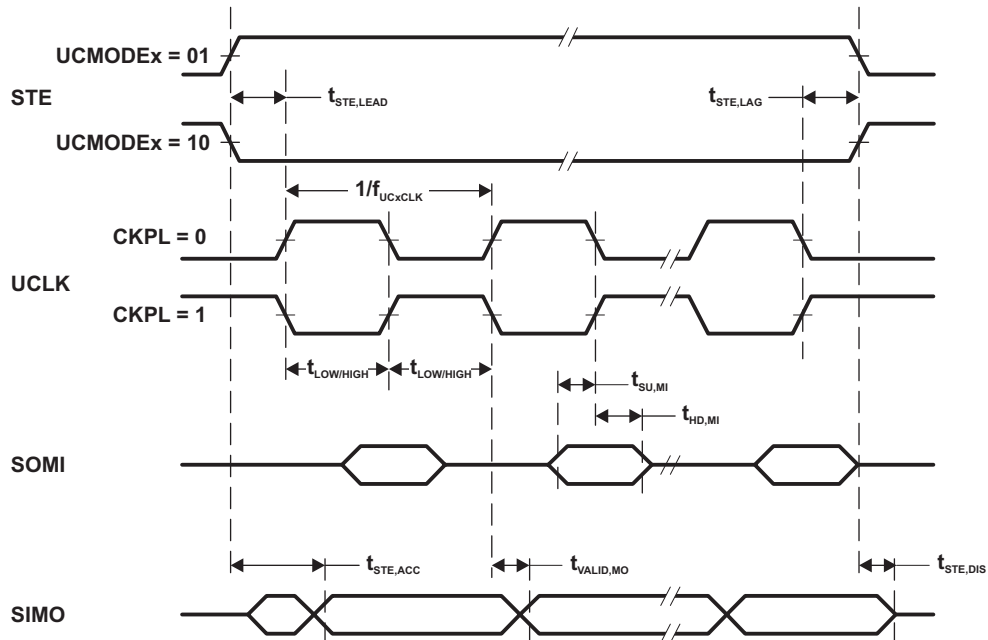
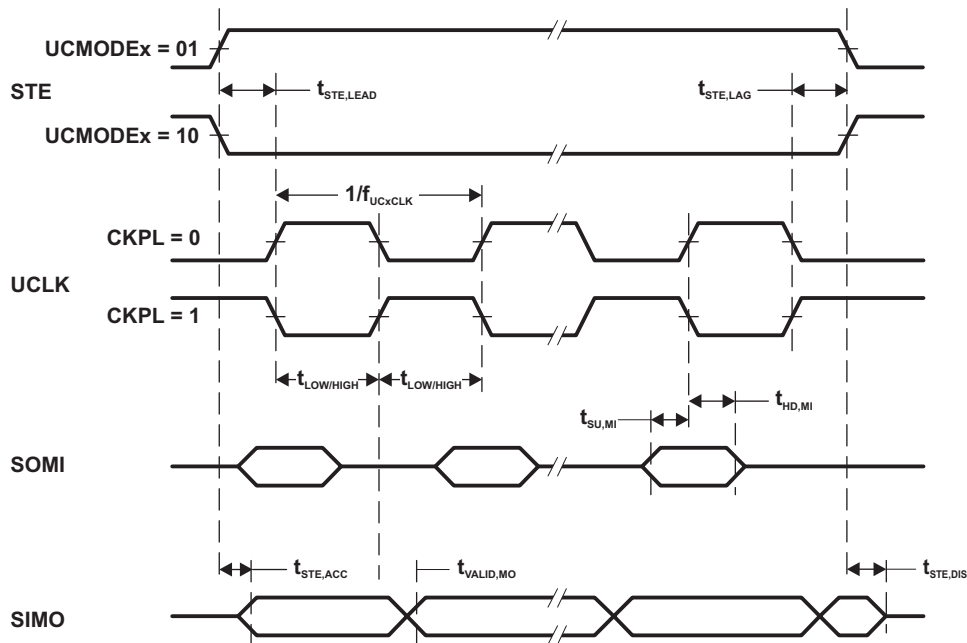

Figure 5. SPI Master Mode, CKPH = 0
Figure 6. SPI Master Mode, CKPH = 1
- (1)  $f_{UCxCLK} = 1/2t_{LO/HI}$  with  $t_{LO/HI} = \max(t_{VALID,MO(eUSCI)} + t_{SU,SI(Slave)}, t_{SU,MI(eUSCI)} + t_{VALID,SO(Slave)})$ . For the slave's parameters  $t_{SU,SI(Slave)}$  and  $t_{VALID,SO(Slave)}$  see the SPI parameters of the attached slave.
- (2) Specifies the time to drive the next valid data to the SIMO output after the output changing UCLK clock edge. See the timing diagrams in Figure 5 and Figure 6.
- (3) Specifies how long data on the SIMO output is valid after the output changing UCLK clock edge. Negative values indicate that the data on the SIMO output can become invalid before the output changing clock edge observed on UCLK. See the timing diagrams in Figure 5 and Figure 6.